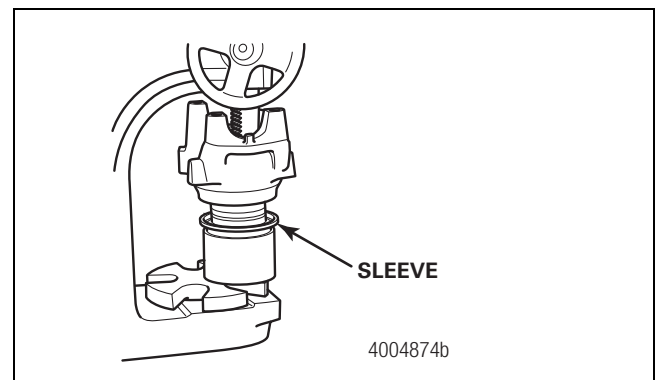

Figure 6.34
5. Apply a light coat of lubricant to the yoke seal journal. Position the sleeve into the yoke sleeve driver. Do not touch the greased areas of the sleeve. The sleeve must be kept clean prior to assembly into the seal. Use an arbor press and the appropriate driver to install the sleeve into the yoke. Verify that the sleeve is fully seated in the yoke to prevent damage to components. Figure 6.34.